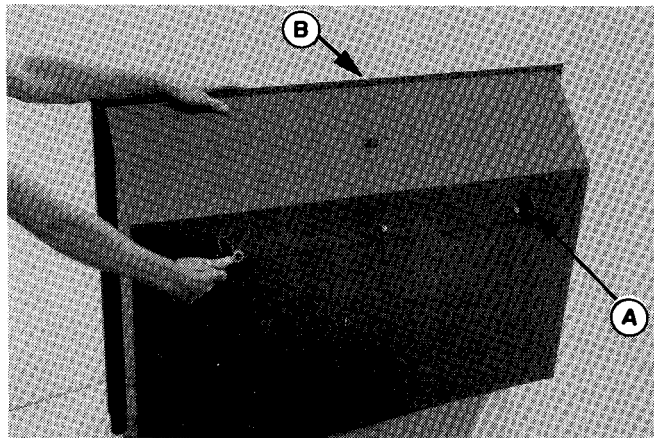

Figure 3.
2. INSTALL THE U-BRACKET (A, figure 3) TO THE BOTTOM OF THE BOX (B). Place the three $5/16 \times 3/4$ long slotted truss head bolts through the inside of the box and the U-bracket. Secure with three $5/16$ lockwashers and nuts.